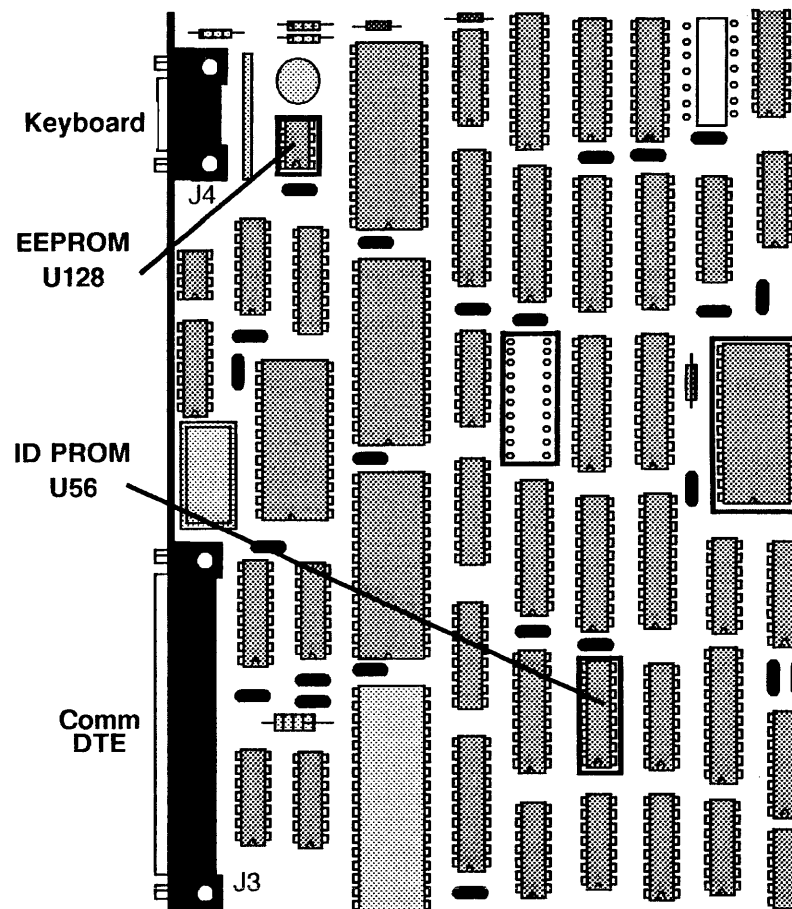

Figure 9. ID PROM and EEPROM Location
6. Locate the ID PROM and the EEPROM on the old IOP PWB (Figure 9) and remove them for use with the new IOP PWB.